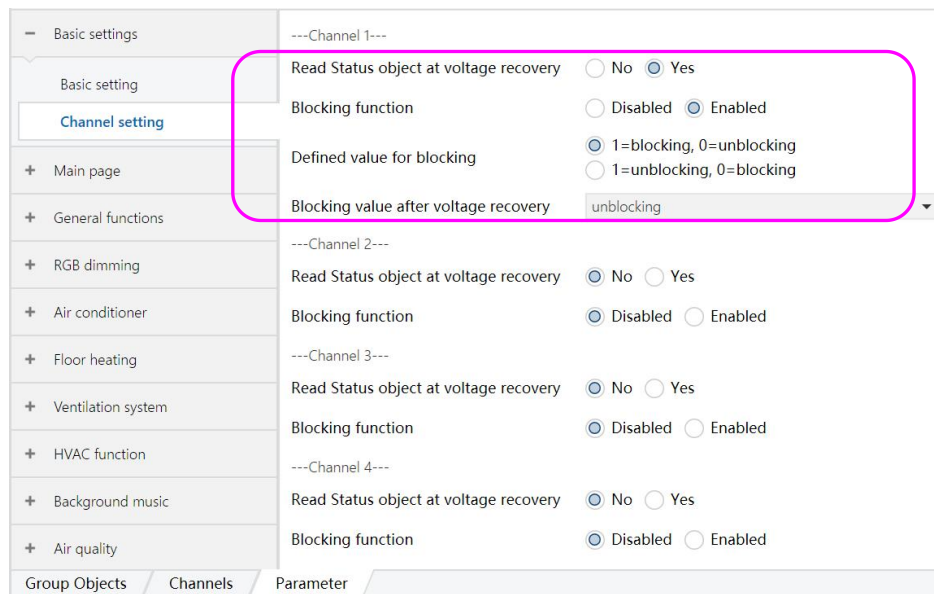

Figure 6.1.3
① "Blocking function", options: blocking = 1, unblocking = 0; blocking = 0, unblocking = 1
② "Blocking value after voltage recovery", options: unblocking, blocking, as before voltage failure. The options in the red box as shown in Figure 6.1.3 are displayed.